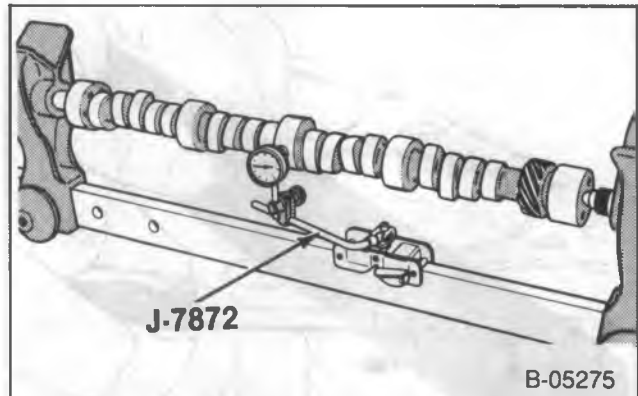

Figure 29—Measuring Camshaft Run-Out
📏 Measure (Figures 29 and 30)
- Camshaft runout (figure 29). Mount the camshaft in V-blocks or between centers. Using J 7872, check the intermediate camshaft journal. If runout exceeds (0.0015-inch), the camshaft is excessively bent and should be replaced along with the camshaft bearings.